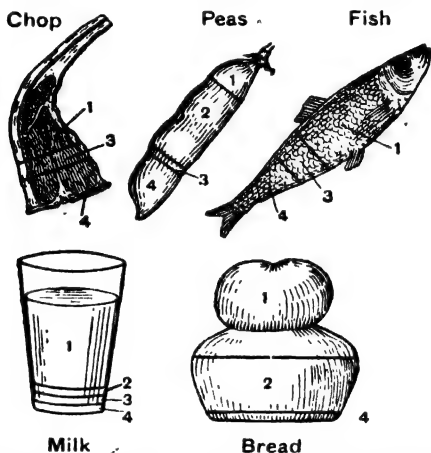

FIG. 187. THE PROPORTION OF WATER, CARBOHYDRATE, FAT AND PROTEIN IN SOME COMMON FOODS.
(5) vitamins. The proteins he obtains from foods like meat, eggs and cheese; the carbohydrates from starch and sugar foods like bread, potatoes and sugar: the fats and oils from substances like butter and lard; the mineral salts from common salt, vegetables and fruit. Fig. 187 shows the proportion of water, fat, carbohydrates and proteins in different foods. Until the present century, these four classes of foodstuff were thought